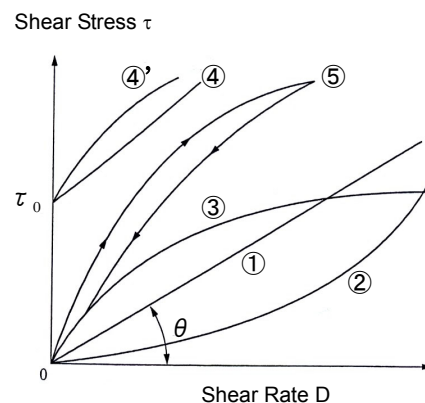

Figure 3 Newtonian Fluid and Non-Newtonian Fluid (Yutaka Matsuyama, Jitsuyo Kogyo Bunseki, 61, The Energy Conservation Center, 2001)
Figure 3 shows the relationship between shear rate D and shear stress τ . As straight line ① shows, where they are in proportion indicating a constant slope of the line, it is a Newtonian fluid. Where θ stands for the slope, viscosity η is represented by the following equation (4);